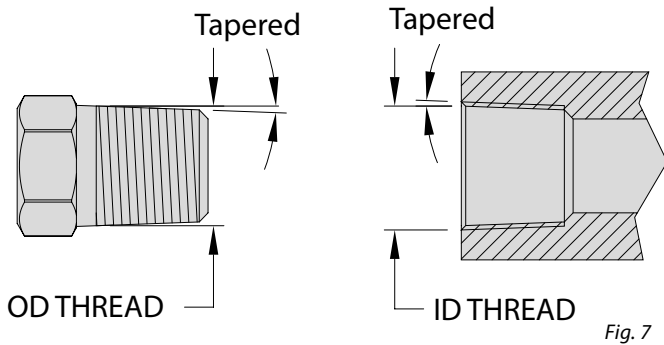

Fig. 7
**National Pipe Taper (NPT)** is the most common thread used in the US. There are different types of NPT threads, but all are tapered for sealing, while some require the use of a thread sealant. Others, such as NPTF, are a dry seal taper thread that seals by deforming the threads (Fig. 7).